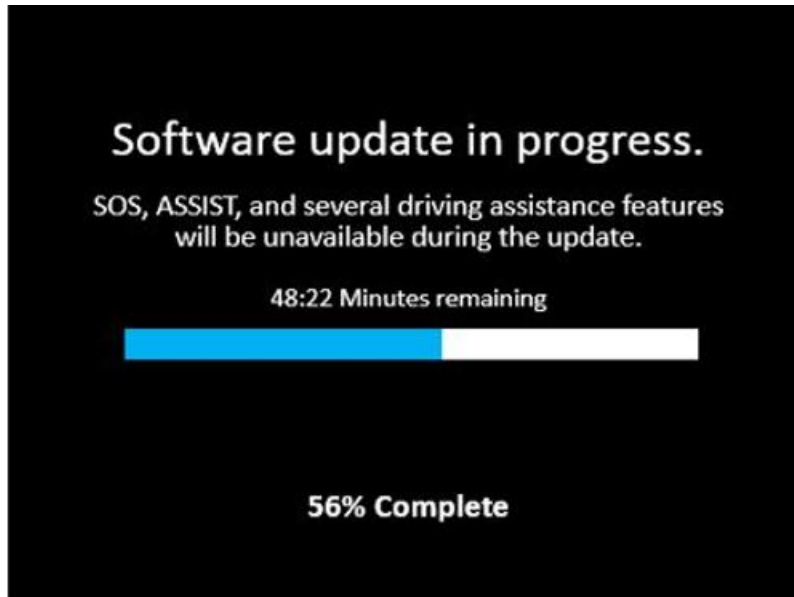

Fig. 9
15. The radio will reboot and the update will begin. The update should only take 25 minutes, the timer on the screen may display the incorrect time remaining, (Fig. 9) .